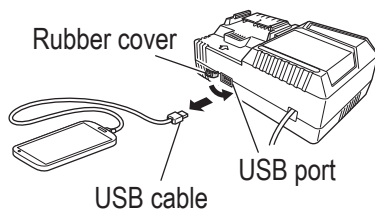

Fig. 45
- Unplug the power cord from the electrical outlet. (Fig. 45)